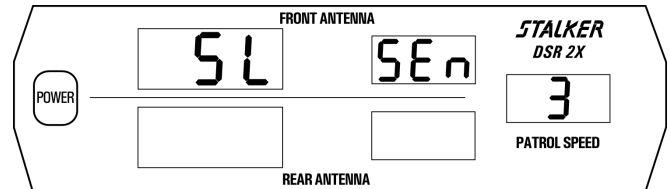

Fig. 4
The Same Lane sensitivity of *STALKER DSR 2X* is adjusted by pressing the remote control **MENU** key three times. The **↑** and **↓** keys then cycle through the five (5) sensitivity levels: **SEN 0**, **SEN 1**, **SEN 2**, **SEN 3**, and **SEN 4** (Fig. 4 shows sensitivity level 3, the factory default setting). In each case, the right-hand display refers to the current sensitivity setting. Sensitivity varies from **SEN 0** (0 range) to **SEN 4** (maximum range). **The sensitivity must be set for same lane mode and opposite lane mode separately.** Press any of the four Target Zone Keys to exit Setup Mode.